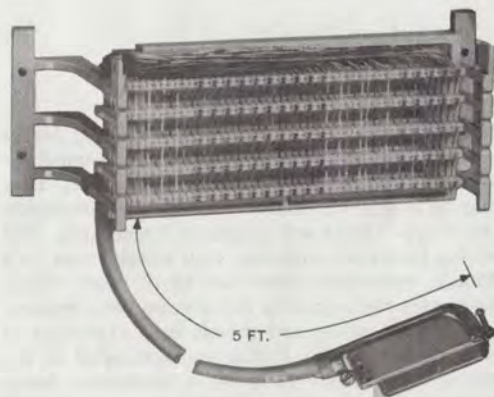

Fig. 2—88-Type Wiring Block With Connector Cable
- (3) The second suffix letter denotes color of the wiring block: W—indicating white.
- (4) The third suffix numeral assignment is to identify minor design differences resulting from engineering or manufacturing improvement.
- (5) The number following the dash indicates the number of pairs that can be terminated.
- (6) The letter C following the number of pairs indicates the block is supplied with a factory-wired connector-ended cable 5 feet long (Fig. 2). The blocks are factory-wired to give five multiples for each conductor. On prewired blocks, extra multiples can be provided using the 3-way bridging adapter, KS-19252,L2 (PCP), for no more than ten multiples. Refer to Section 461-200-101 for information on adapters.